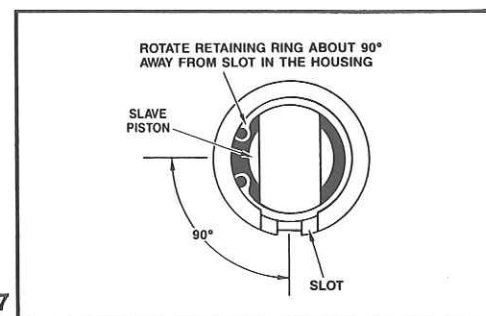

Fig. 27
7. Compress the slave piston springs down until the retainer is about 0.040 inch (1 mm) below the retaining ring groove. Reinstall the retaining ring. Be sure the retaining ring is fully seated in the groove. Rotate retaining ring about 90° away from slot in housing (Fig. 27).